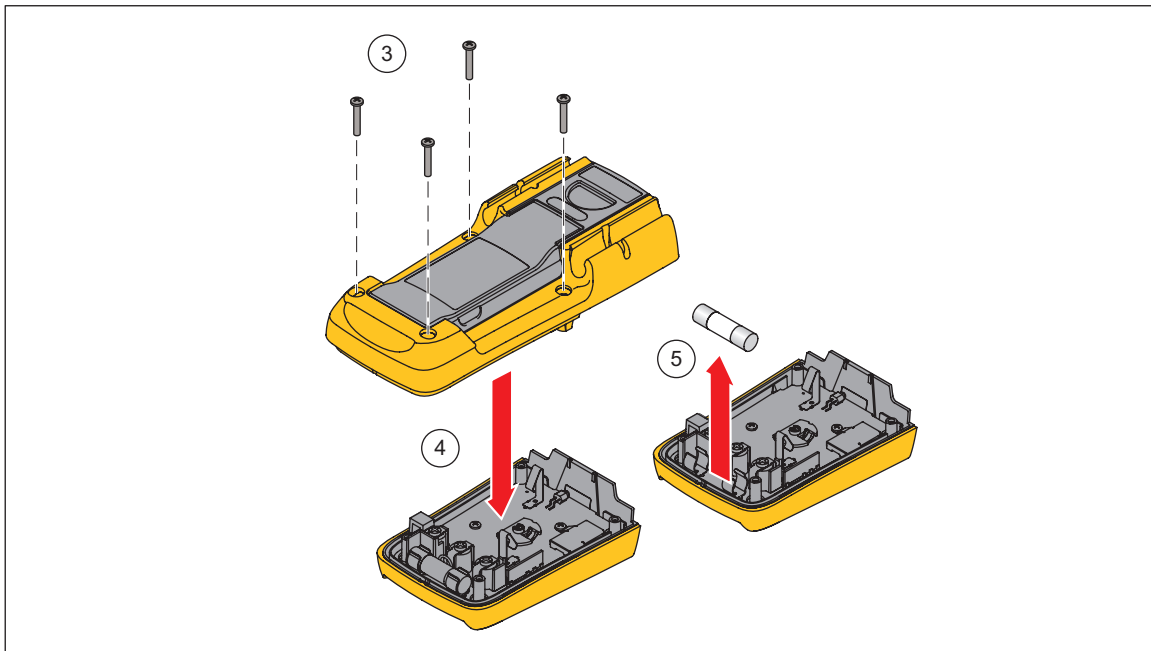

Figure 5. Fuse Replacement
3. As shown in Figure 5, remove four screws from the case bottom.